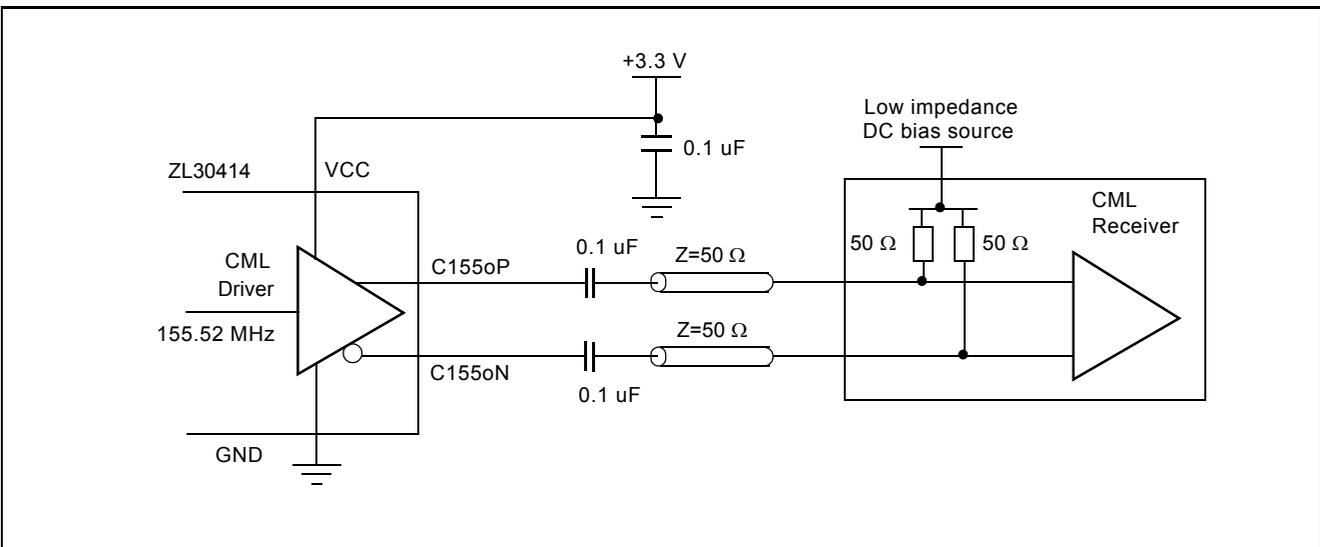

Figure 9 - CML to CML Interface
- Note 3: CML outputs terminated with $Z_T = 50\ \Omega$ resistors connected to low impedance DC bias voltage source (see Figure 9)